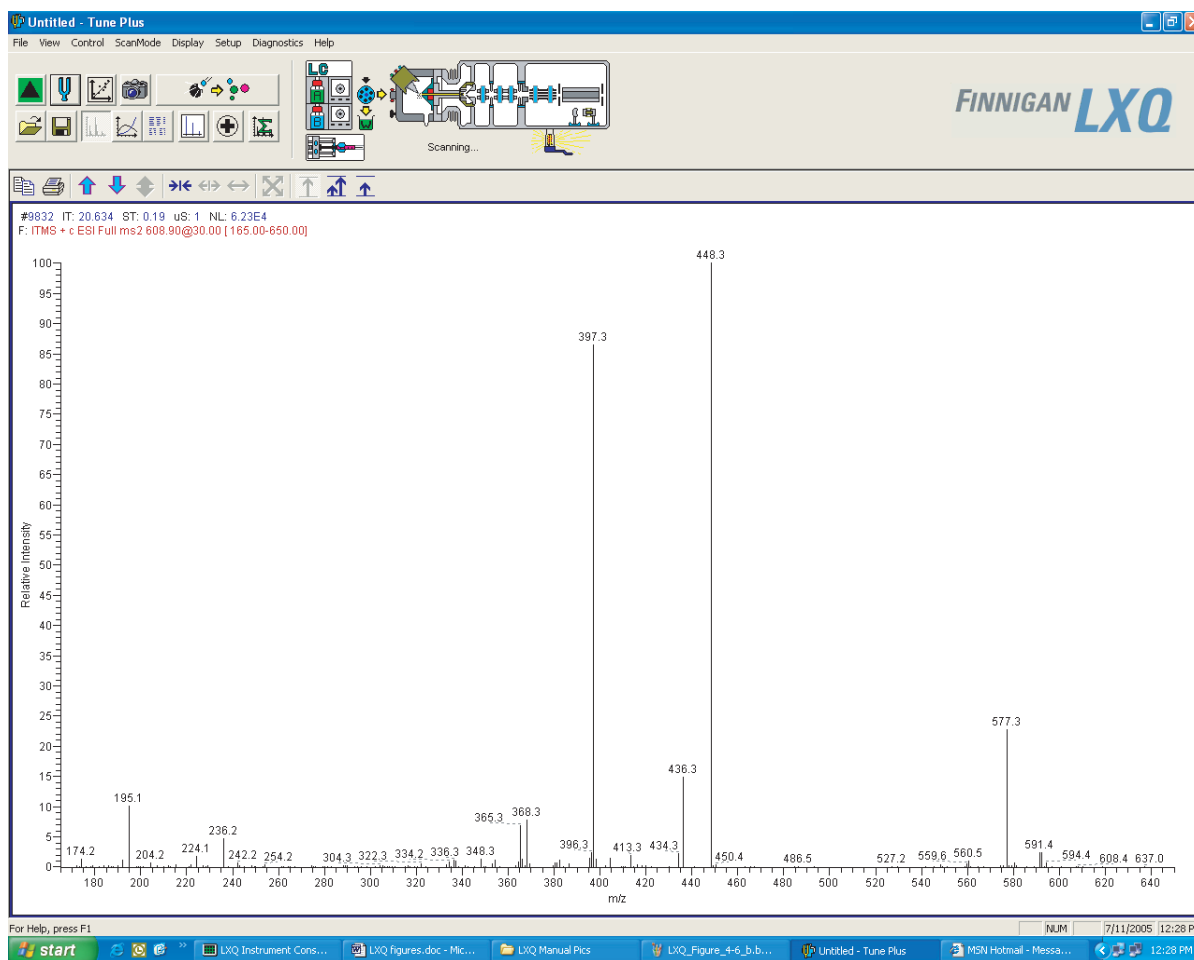

Figure 41. Tune Plus window, showing MS/MS product ions of reserpine in the Spectrum view. The Tune dialog box from Figure 40 is not shown.
2. Click **OK** to close the message box, and leave the Tune dialog box open. Your Tune Plus window should now look similar to the one shown in Figure 41.